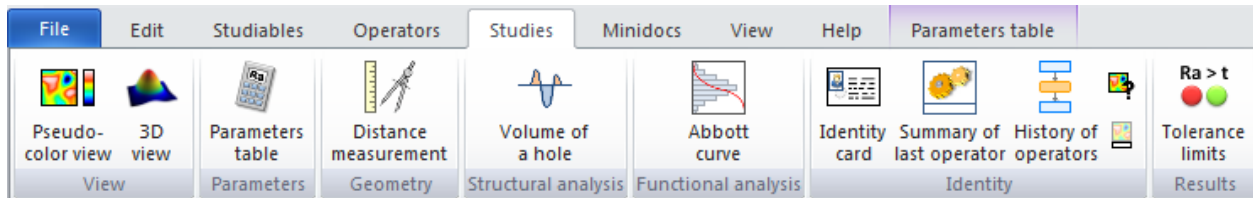

Figure 4: Statistical information can be generated by *Studies > Parameters table*.
- *Studies > Parameters table*. See **Figure 4**.